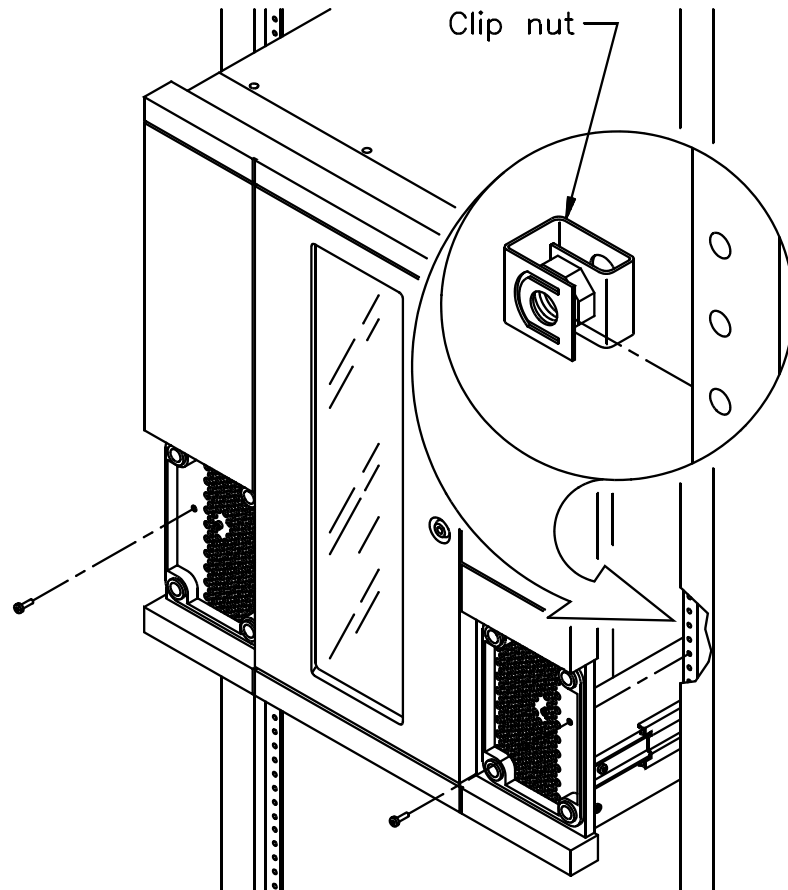

Figure 7-1 Removing the screws from the front of the rack
3. Use a T-25 TORX driver to remove the two pan head screws that secure the library to the rack, as shown in Figure 7-1. (A clip nut may have been installed over the screw hole on the rack.)